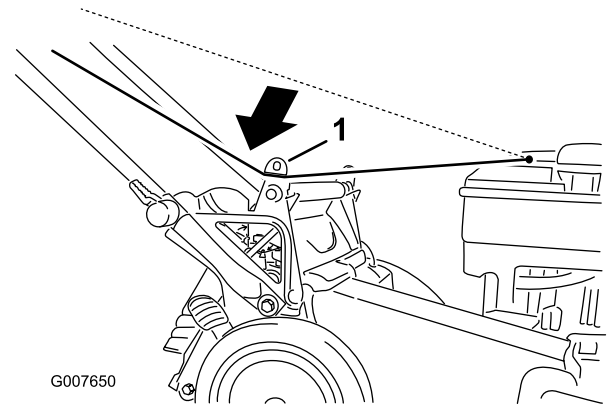

Figure 1
1. Route the starter rope around the lower rope guide (Figure 1).